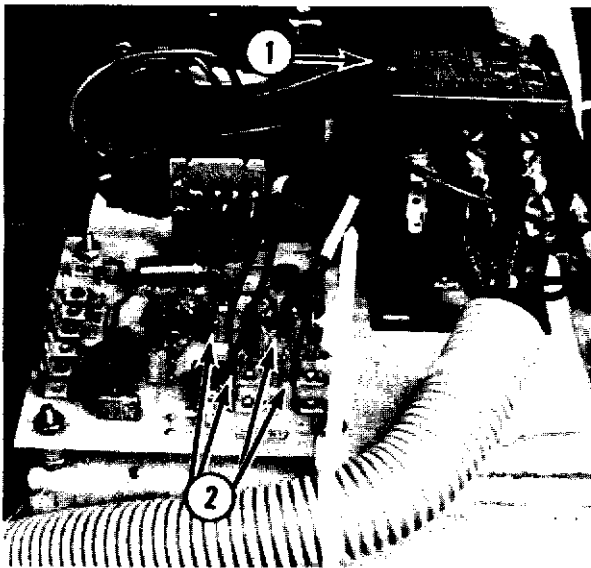

Fig. 8-3
- A. Disconnect the motor leads from the terminal board. If the mixer is not equipped with a terminal board, disconnect the motor leads from the contactor (1, Fig. 8-3).
- B. Disconnect the motor thermistor leads (2, Fig. 8-3) (MT1 and MT2) from the motor protector board.
- C. Disconnect the leads from the line side of the contactor (1, Fig. 8-3).